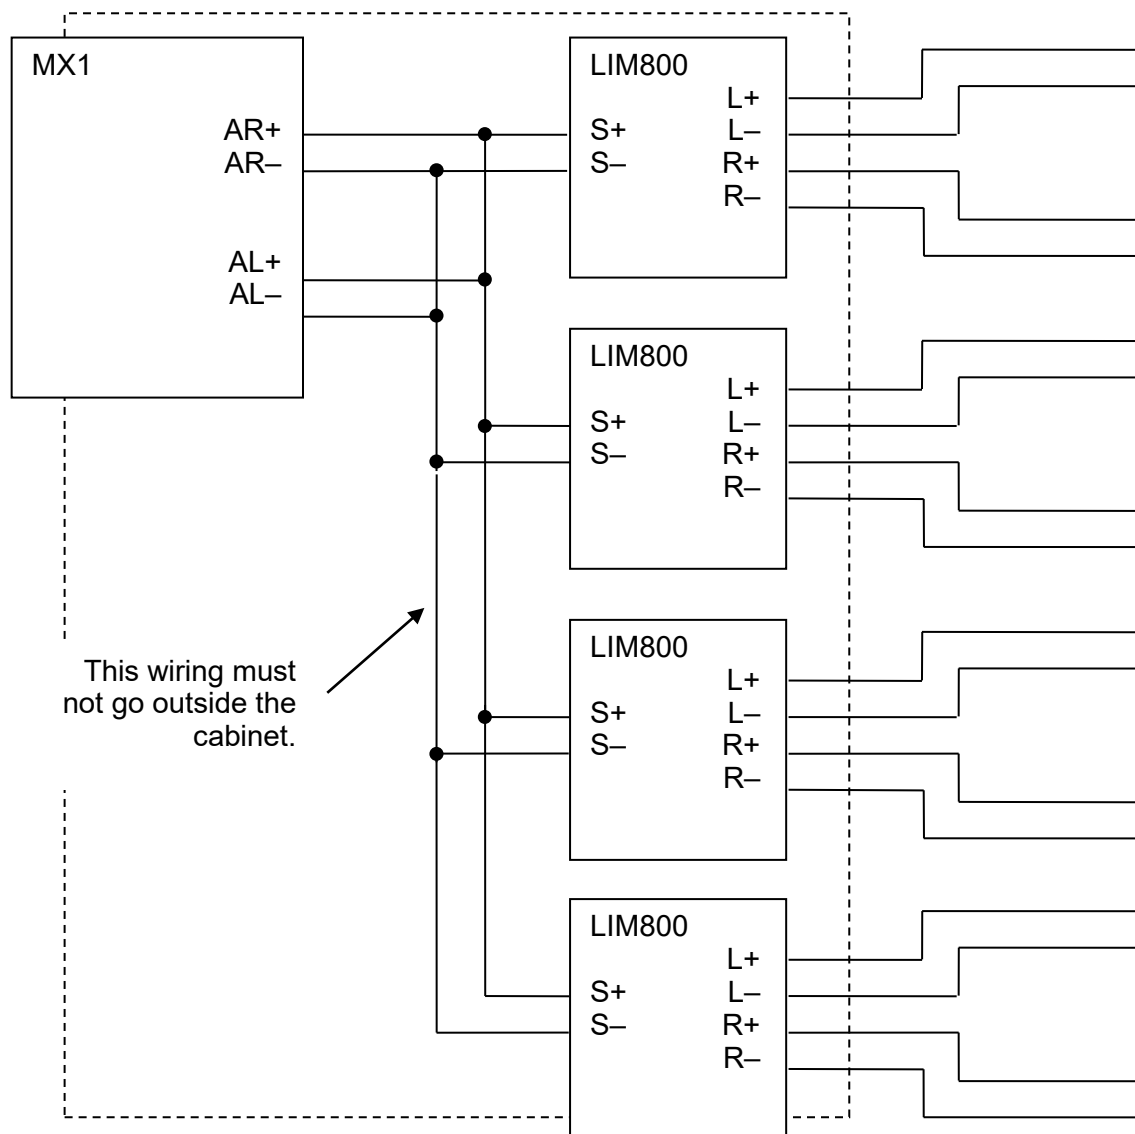

Figure 7.2 – Star Connection on MX1
*MX1* supports LOOP mode only. However, the *MX1* can also be used to connect to multiple lines in a star configuration as shown in Figure 7.2.
It is not always necessary to connect addressable systems as loops, especially if an existing conventional detector system is being converted to addressable detectors. As the existing detector zone cables probably already terminate at the main panel, it is possible to connect these in a star connection to the *MX1* as shown in Figure 7.2.
The *MX1* AL and AR terminals should be joined together as shown in Figure 7.2. The total length of cable connected to the *MX1* (all branches added together) should not exceed 2000m.
Any such spur should be connected to the loop or its parent spur via an isolator base. See Figure 7.2.